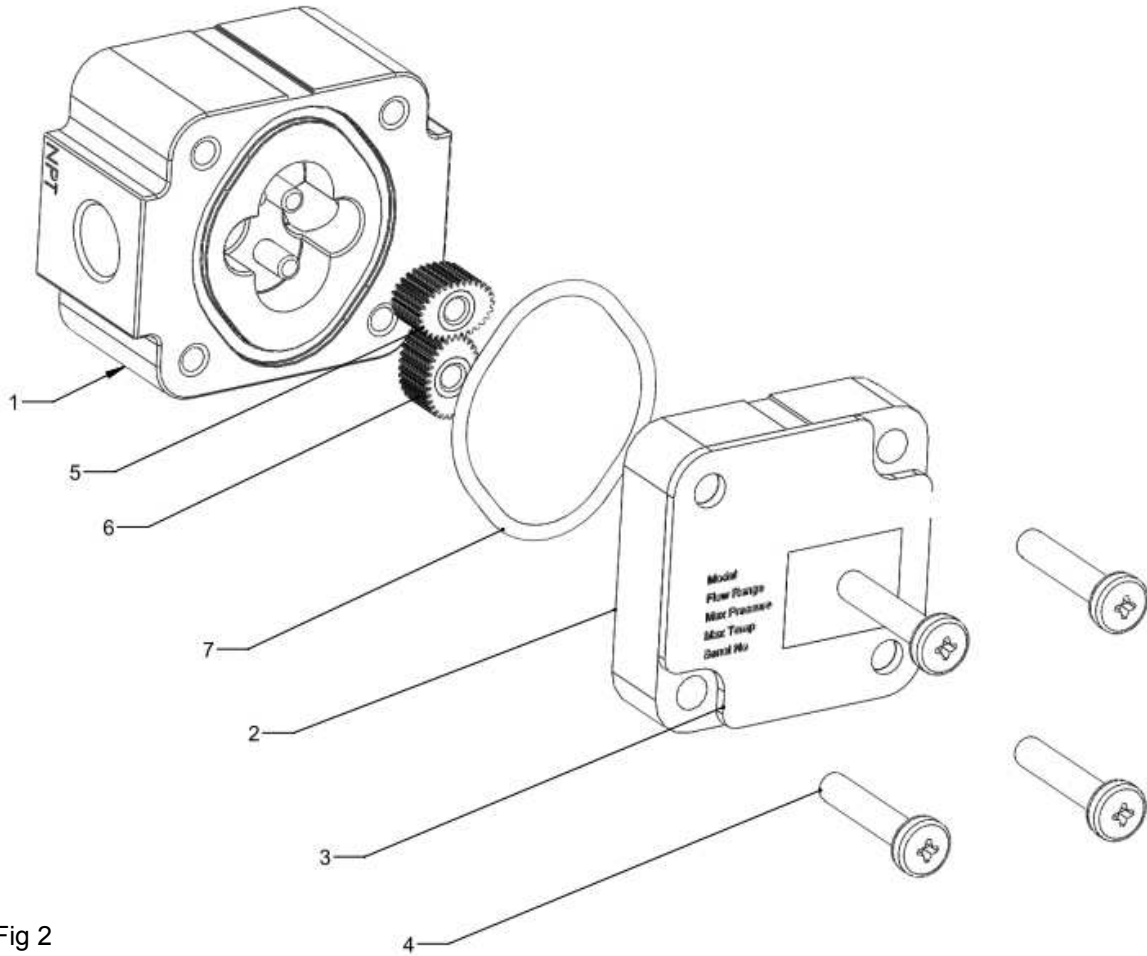

Fig 2
1. Loosen and remove 4 Phillips head or cap head screws (Item 4), see Fig 2.